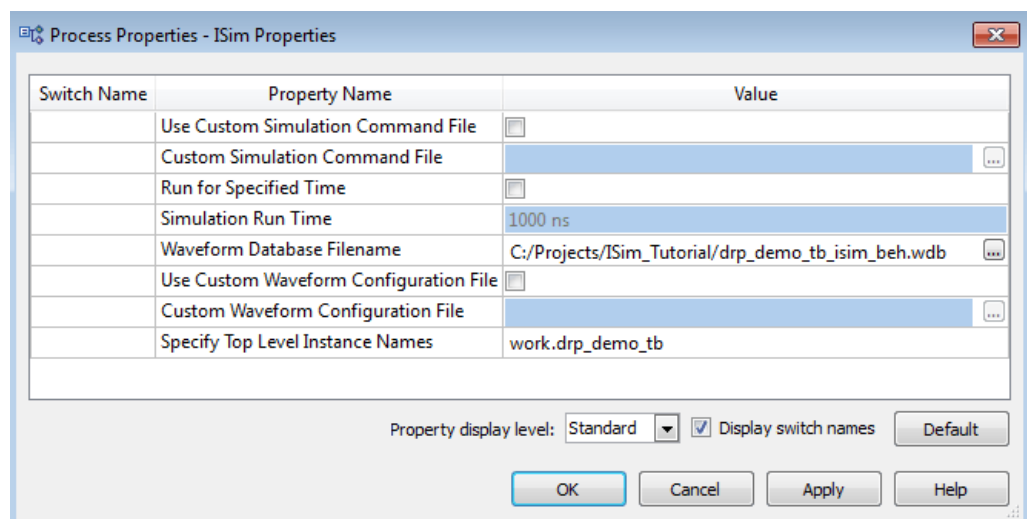

Figure 2-12: ISim Properties Dialog Box
3. Right-click **Simulate Behavioral Model** under the ISim Simulator process and select **Properties**. The ISim Properties dialog box displays (Refer to Figure 2-12).
4. In the ISim Properties dialog box, uncheck the property **Run for Specified Time**, and click **OK**. (Refer to Figure 2-12.)